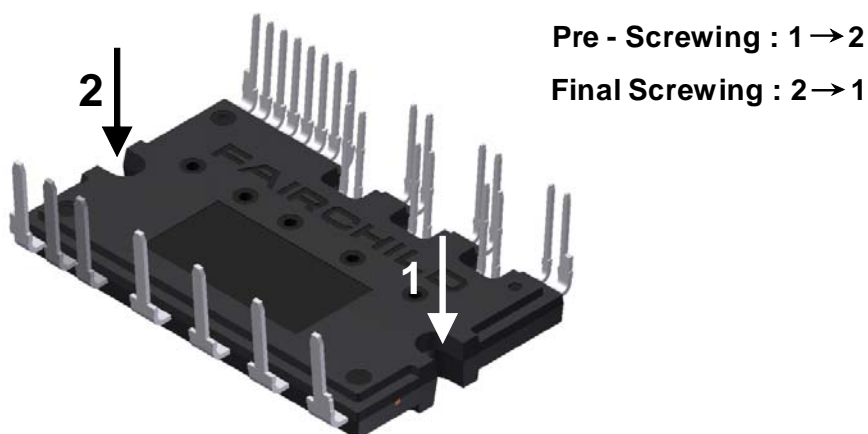

Figure 10. Mounting Screws Torque Order
| | See Figure 10 | Recommended 7.1 kg • cm | | | kg • cm |
12. Avoid one-sided tightening stress. Figure 10 shows the recommended torque order for mounting screws. Uneven mounting can cause the DBC substrate of package to be damaged. The pre-screwing torque is set to 20 ~ 30% of maximum torque rating.